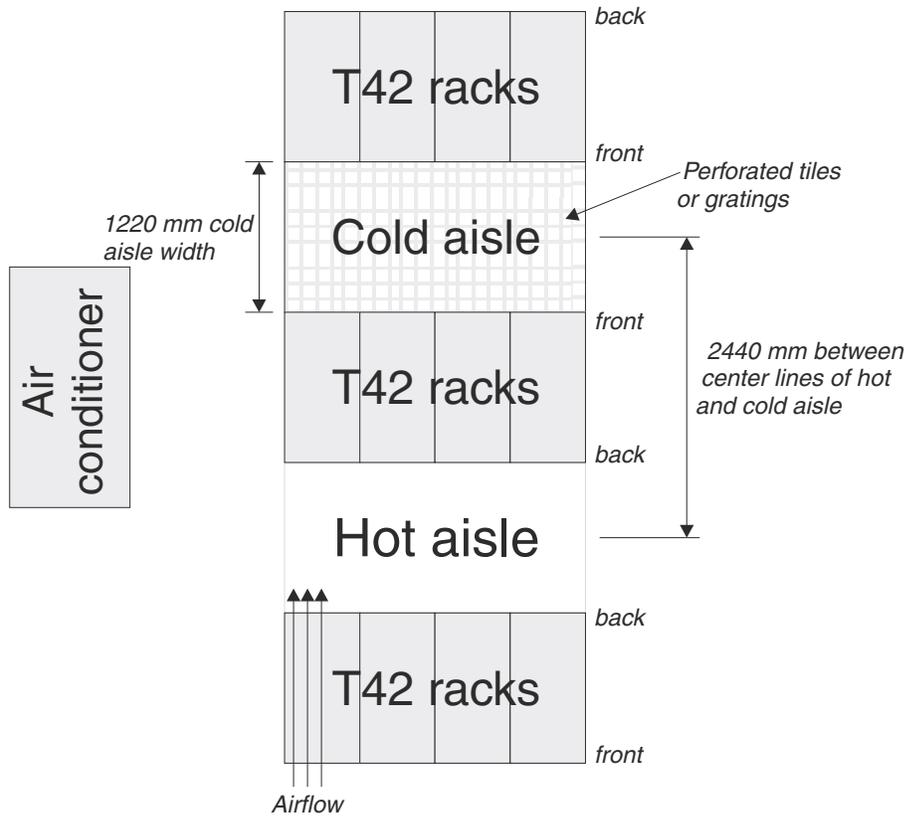

Figure 5. Example of Cold Aisle/Hot Aisle rack configuration
- Air enters at the front of the rack and leaves at the back. To prevent the air that is leaving the rack from entering the intake of another piece of equipment, racks must be positioned in alternate rows, back-to-back and front-to-front. This arrangement is known as “Cold Aisle / Hot Aisle” and is shown in Figure 5 on page 10.